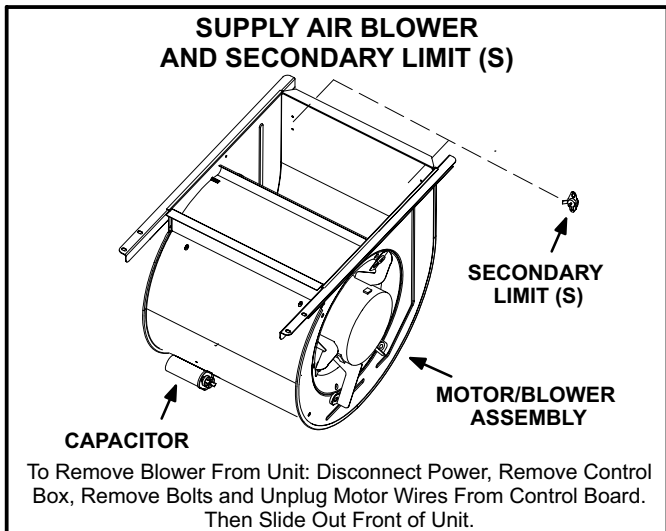

FIGURE 6
The secondary limit (S21) on G60UH(X) units is located in the blower compartment on the back side of the blower housing. See figure 6. Blower speed chart on the wiring diagram show secondary limit quantities per unit. When excess heat is sensed in the blower compartment, the limit will open. If the limit is open, the furnace control energizes the supply air blower and closes the gas valve. The limit automatically resets when unit temperature returns to normal. G60UH-1 through -4 units use surface type limits factory set to open at 125°F. G60UH-5 units and later use air stream type limits factory set to open at 135°. The secondary limit cannot be adjusted.